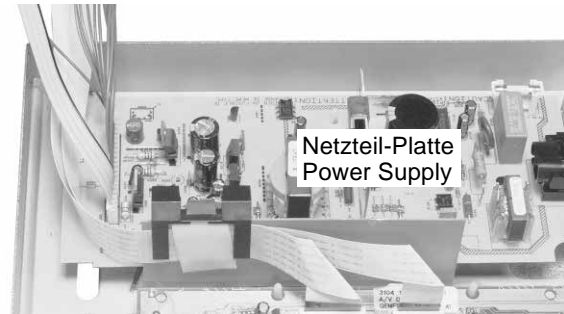

Fig. 14
- Note:** It must be assured that no leads are routed over the power supply board (Fig. 14).